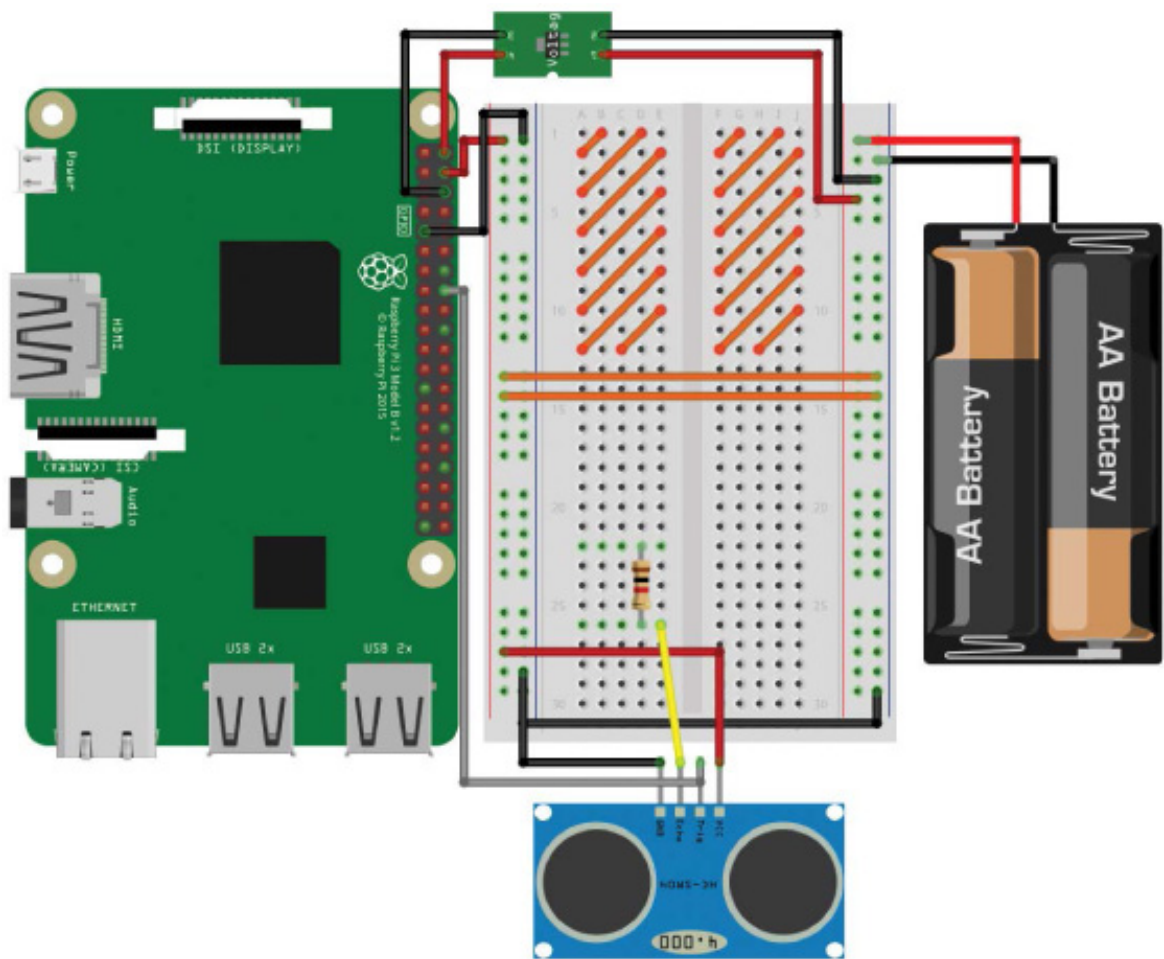

FIGURE 5-6 The Trig pin of the HC-SR04 connected to BCM 23 and the Echo pin connected to a 1 kΩ resistor
4. Then attach a jumper wire from the Echo pin of your sensor to a new row on your breadboard. Connect a 1 kΩ resistor by putting one leg of the resistor into the same row as the Echo pin and the other leg of the resistor into a different, unused row of your breadboard. At this point your wiring should look like Figure 5-6.